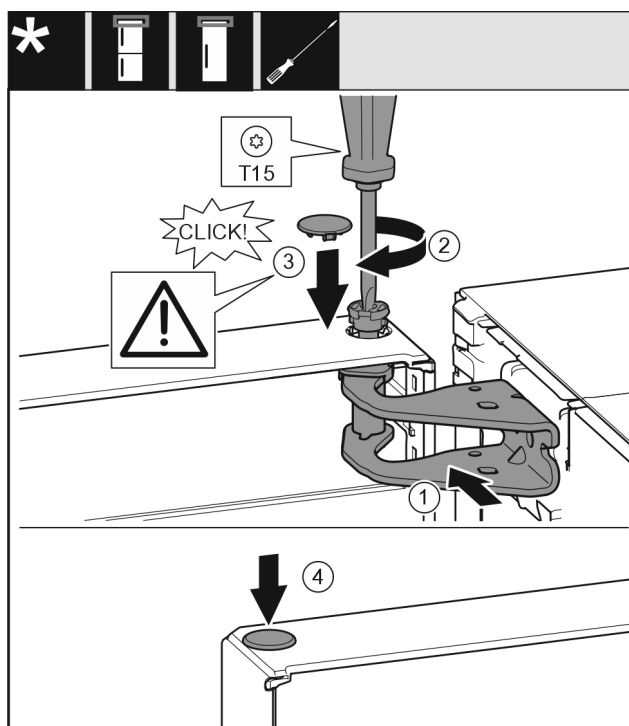

Fig. 22
- Align the top of the door with opening in the bearing bracket. Fig. 22 (1)
- Insert the bolt Fig. 22 (2) and use screwdriver to tighten it.
- Fit the safety cover Fig. 22 (3) to secure the door: Insert the safety cover and check whether the door is resting on it. Otherwise, insert the bolt fully.
- Insert the plug *Fig. 22 (4)*.